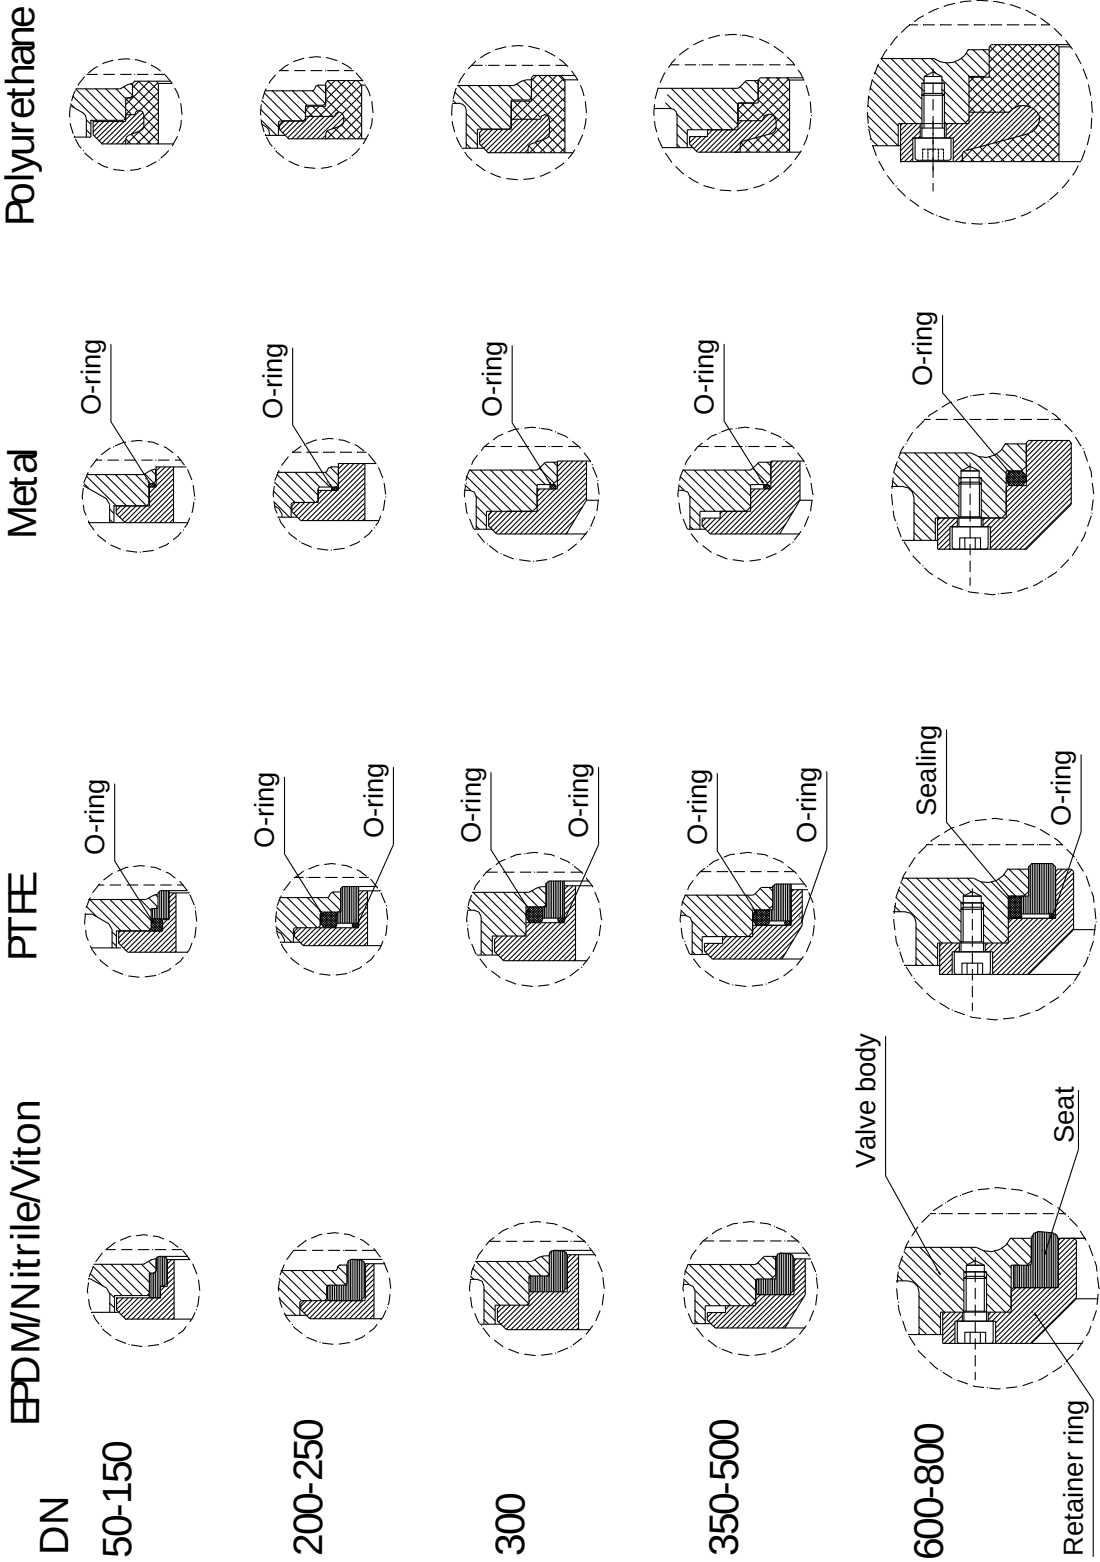

Figure 3
2. Loosen the locking screws (12a) the retainer ring (12) is locked with.
3. Lift of the retainer ring (12). If the retainer ring is stuck, use a screw driver or similar and bend carefully between the retainer ring and the valve body in several places around the bore until the retainer ring is loose.
4. Check the gate (6) for damages such as dents and scrapes. If the gate is damaged it can wear out the box packing (9) and the seat (13), causing leakage. Stafsjö recommends changing the gate if it is damaged to ensure the function of the valve.
6. Install a new seat (13) on the retainer ring (12) and place the retainer ring in the valve body (10). For PTFE or metal seat, o-rings must also be installed, see fig. 3. Lubricate the seat and the o-rings with a synthetic lubricator to make the installation easier.
7. Lock the retainer ring (12) with the locking screws. Note! The function of the screws is only to keep the retainer ring in place. The retainer ring function come into force when the valve is installed in a system between pipe flanges.